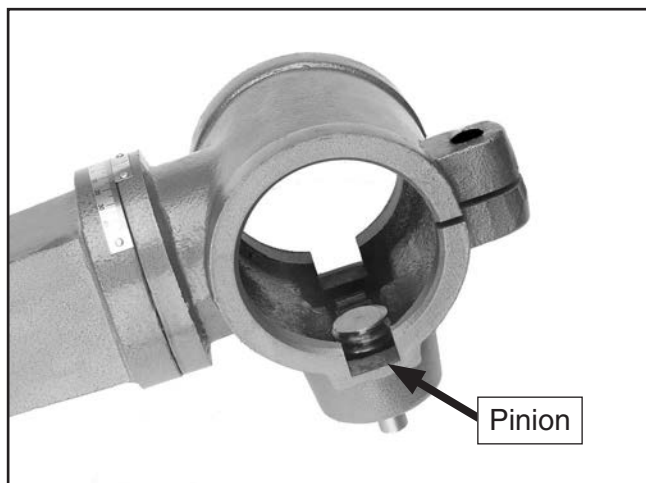

Figure 13. Pinion correctly installed in table support.
- Place pinion in table support, as shown in **Figure 13**, so pinion and gear teeth mesh together.